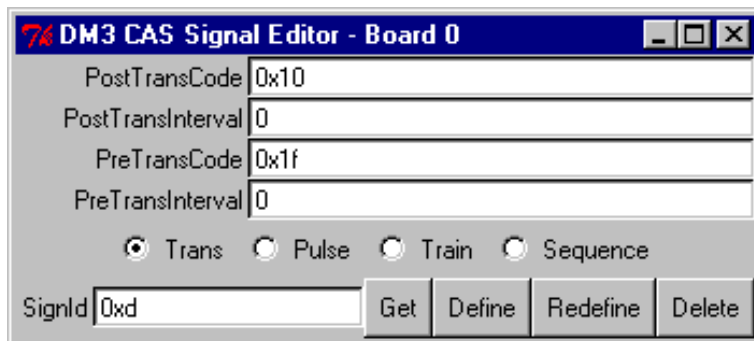

Figure 6. CAS Signal Editor Display
Once you start the utility, a window will open in which you can choose the signal that you want to edit (Figure 6). For signal IDs, refer to the *DM3 Configuration File Reference*. You can edit a signal and check the results as follows:
1. In the SignalId field of the *CAS Signal Editor* display (Figure 6), enter the ID of the signal you want to edit.